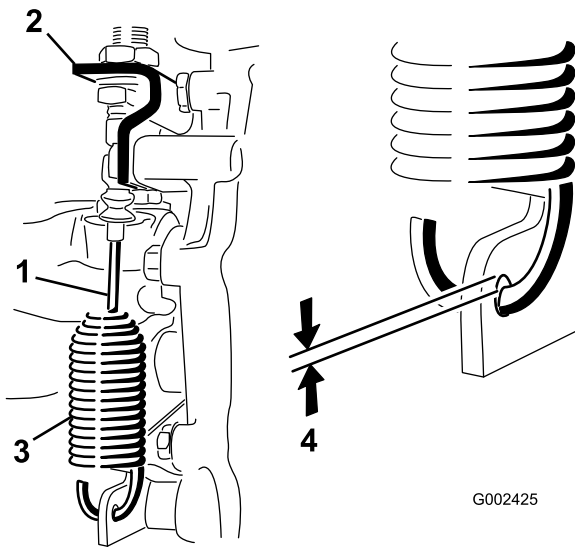

Figure 56
2. Loosen jam nuts securing differential lock cable to bracket on transaxle (Figure 56).